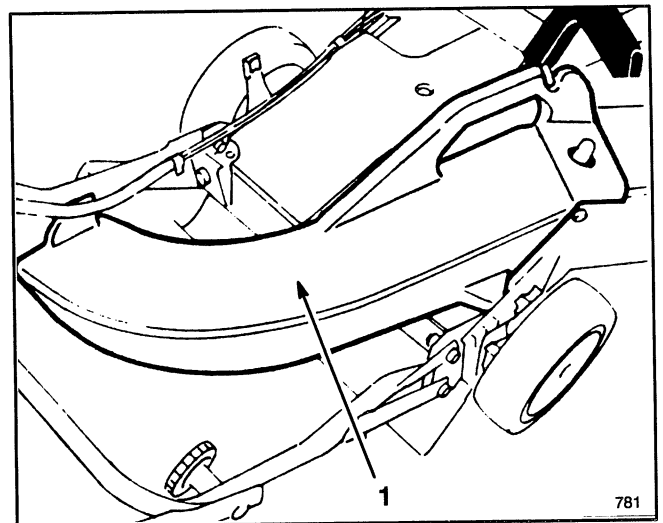

Figure 36
1. **Side Discharge Kit, Model No. 59112**—Installs in seconds. Rear mounted in place of the grass bag or discharge tunnel plug. Disperses clippings while trimming on both sides (Fig. 36).